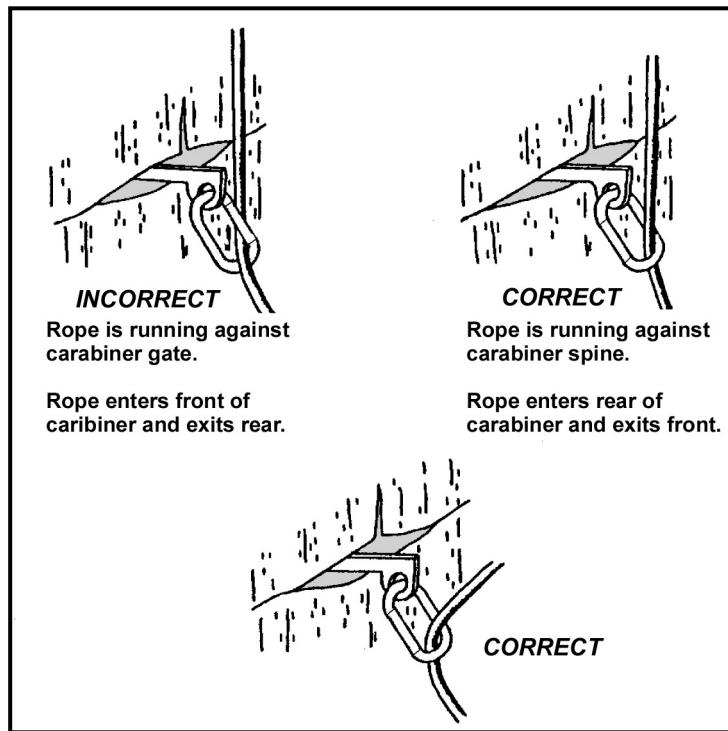

Figure 6-29. Clipping on to protection.
(2) ***Correct Clipping Technique.*** Once an anchor is placed, the climber “clips” the rope into the carabiner (Figure 6-29, page 6-50). As a carabiner hangs from the protection, the rope can be routed through the carabiner in two possible ways. One way will allow the rope to run smoothly as the climber moves past the placement; the other way will often create a dangerous situation in which the rope could become “unclipped” from the carabiner if the leader were to fall on this piece of protection. In addition, a